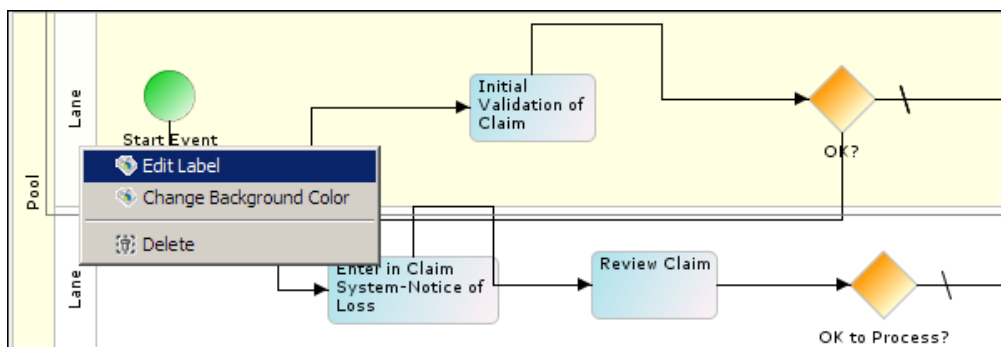

Figure 28: Select Edit Label for Swim Lane
- Right-click the Swim Lane that you want to rename and select **Edit Label** option (see Figure 28).